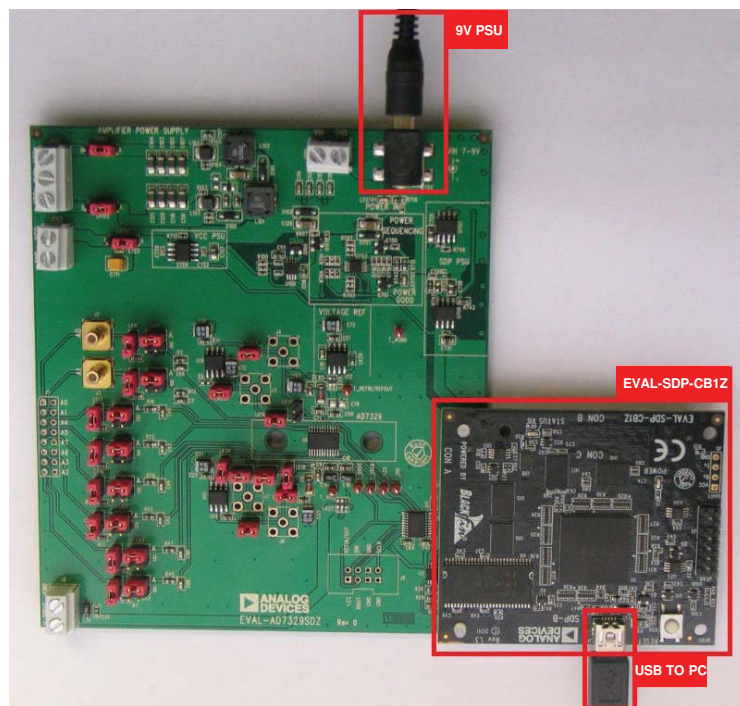

Figure 2. Hardware Configuration—Setting Up the EVAL-AD7329SDZ (EVAL-AD7329SDZ on Left and EVAL-SDP-CB1Z on Right)
3. Connect the EVAL-SDP-CB1Z board to the EVAL-AD7329SDZ board as shown in Figure 2. Screw the two boards together using the nylon screw-nut set included in the evaluation board kit to ensure that the boards are connected firmly together.
The AD7329 evaluation board connects to the EVAL-SDP-CB1Z system demonstration board. The EVAL-SDP-CB1Z board is the controller board, which is the communication link between the PC and the main evaluation board. Figure 2 shows a photograph of the connections made between the AD7329 daughter board and the EVAL-SDP-CB1Z board.
1. Connect the EVAL-AD7329SDZ board to Connector A or Connector B of the EVAL-SDP-CB1Z board (see Figure 2).